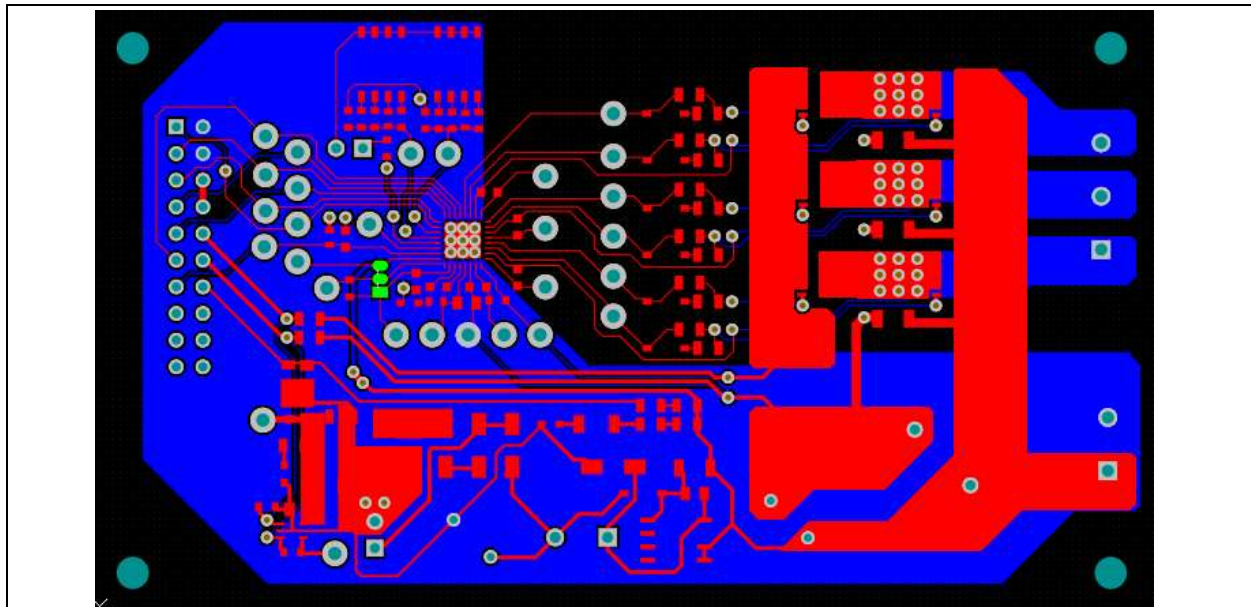

Figure 30 Optimal layout of 6ED2742 driving three phases of OptiMOS™ MOSFETs
**Routing and Placement:** Power stage PCB parasitic elements can contribute to large negative voltage transients at the switch node; it is recommended to limit the phase voltage negative transients. See figure 30 for optimal placement of components. Ceramic capacitors close to the VCC, VIN, VREG, Charge pump and VB pins.